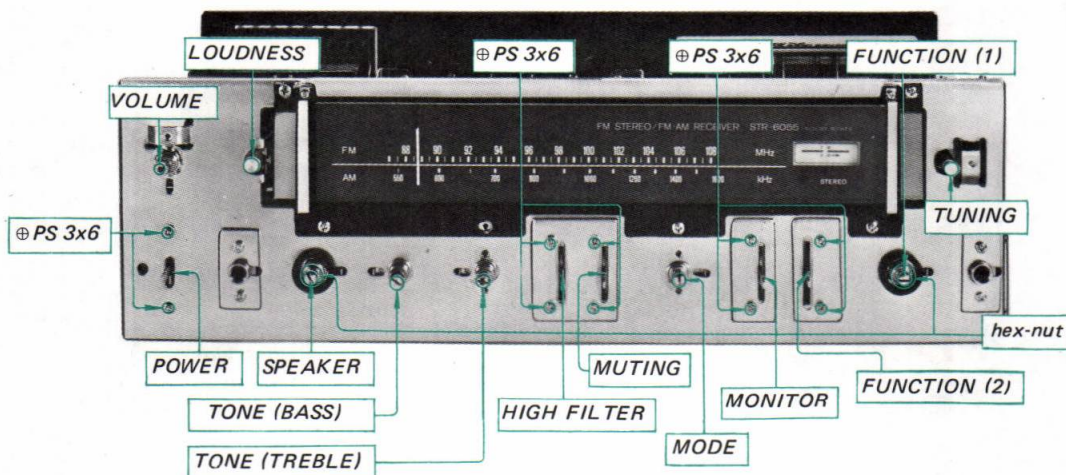

Fig. 2-15. Control and switch replacement
Prepare for replacing any of the controls or switches by removing the top cover and front panel as described in Procedures 2-3 and 2-4. Refer to Fig. 2-15.
**POWER, HIGH FILTER, MUTING, MONITOR, FUNCTION (2) Switches**
1. Remove the two screws ( $\oplus$  PS 3 $\times$ 6) securing switches to the front subchassis as shown in Fig. 2-15.
**SPEAKER, MODE, FUNCTION (1) Switches**
2. Remove the hex nuts that secure the switches to the front-subchassis as shown in Fig. 2-15.